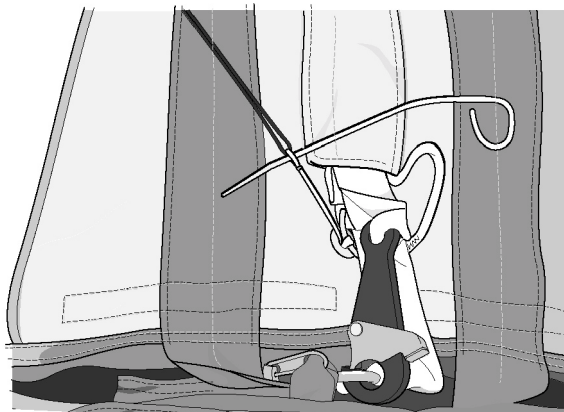

Figure 6. Routing Locking Loop
g. Position retaining lanyard Lark's head to the left on the carry handle and red retainer hook to the left of the grommet. Align grommets in the kit and using a bodkin pass through both grommets, route the pull-up cord up through the grommets. Pull up and secure with a CYPRES locking pin (Figure 6). (QA)